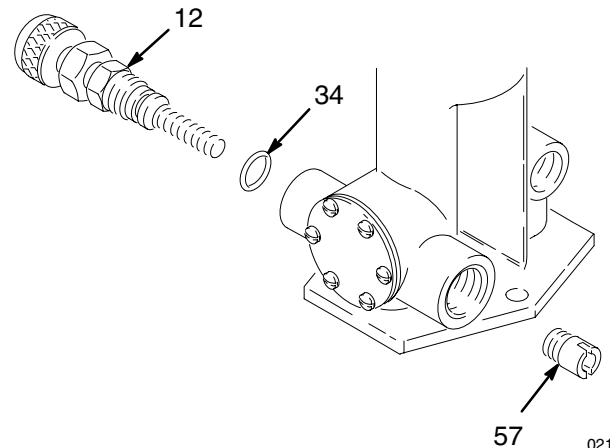

Fig. 8
1. Remove the stem (12) and o-ring (34) from the base. See Fig. 8.
2. Remove the seat (57) from the pump return port with a screwdriver.